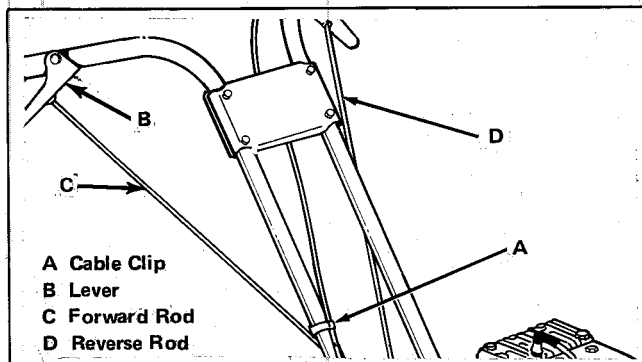
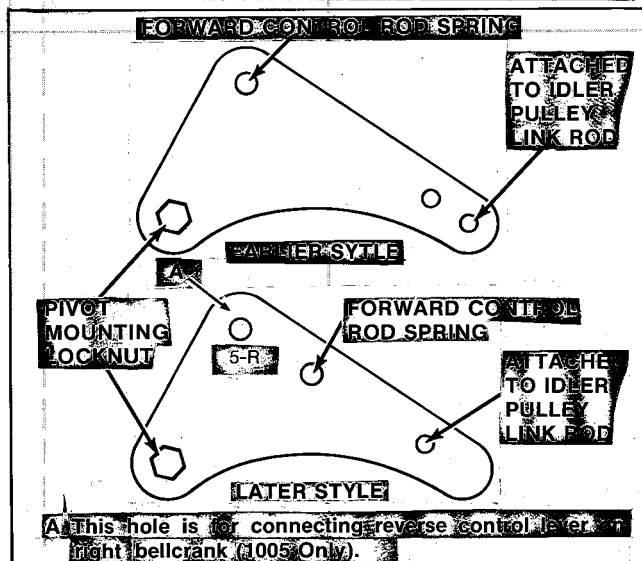
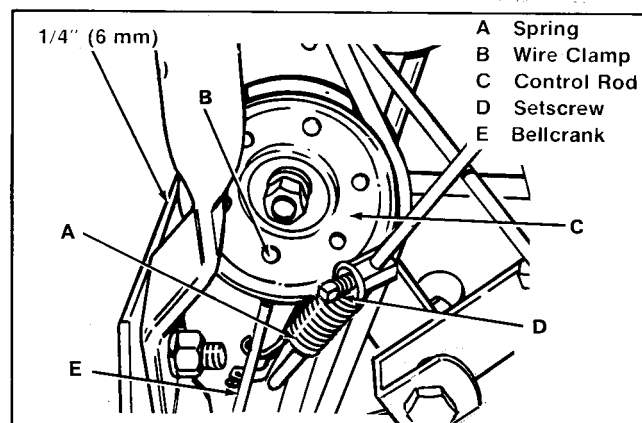

Figure 24. Cable Clip
Figure 25. Early Style and Later Style Bellcranks
Figure 26. Forward Control Rod Assembly
8. Be sure the cable clip (item A, figure 24) is installed as shown to hold the throttle cable on the right handlebar.
1. Insert control rod (item C, figure 24) through forward control lever (item B).
Attachment of control rod is different for earlier style bellcrank and later style bellcrank. To determine which bellcrank is installed on tiller, see Figure 25.
2. For earlier style bellcrank, insert hook end of spring (item A, Figure 26) in top hole of left bellcrank (item E). For later style bellcrank, insert hook end of spring in hole located one inch forward of top hole (see Figure 25).
3. Slip the wire clamp (item B, figure 26) on the end of the control rod (item C).
5. With the control lever (item B, figure 24) completely down, position the forward idler pulley 1/4 inch (6 mm) from the left-hand frame and tighten the setscrew (item D, figure 26).
1. Insert the remaining control rod (item D, figure 24) through the reverse control lever. When installed the reverse control rod should cross under the forward control rod.